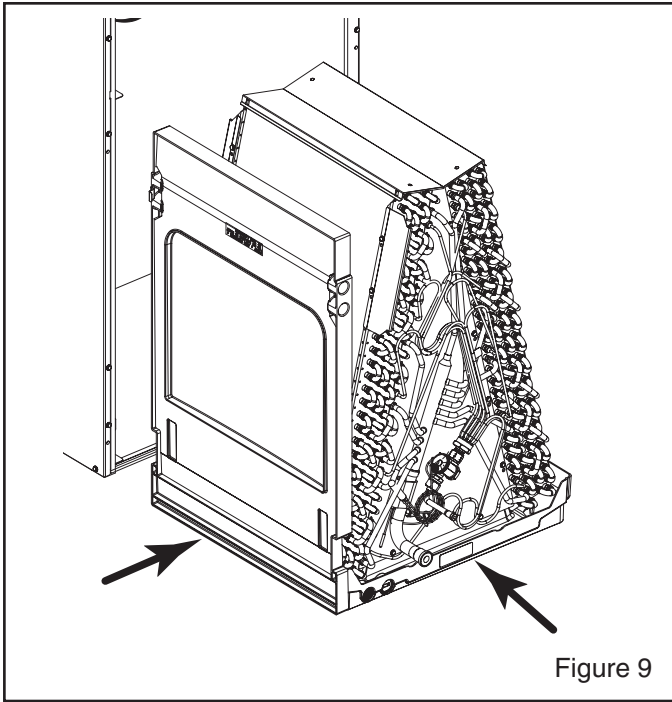

Figure 9
1. Attach the horizontal drain pan to the replacement coil and slide the assembly into the unit. See Figure 9.